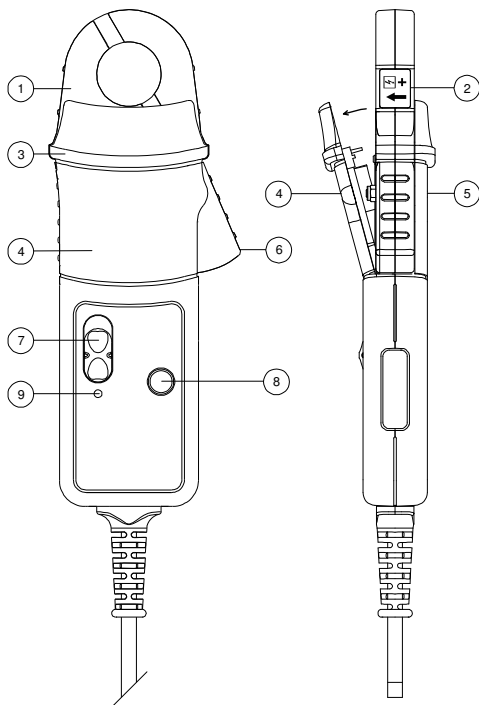

FIG 1
- Do not hold the probe anywhere beyond the tactile barrier see FIG 1, in order to avoid dangerous contact with the conductor.
The green or red LED will flash when the minimum operating voltage is approached. Refer to Fig.1. Use the following procedure.
Loosen the captive screw which secures the battery cover. Lift the cover through 30° and pull it clear of the probe body as shown in Fig 1. Replace the battery and re-fit the battery cover and fasten the screw.
Safety in its use is the responsibility of the operator who must be a suitably qualified or authorised person. Ensure that your fingers are behind the **protective barrier** see FIG 1 when using the probe. Always inspect the probe for damage before use.